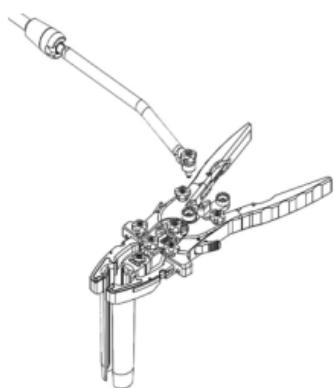

Figure 11
- Align the teeth of the starbursts on the distal end of the **Articulating Arm** (ML-0061) or **Arm Interface** (ML-0902) and on the desired fixation point on the **Retractor** frame, hand tighten and secure into place with the **Hex Driver Tool** (Figure 11).